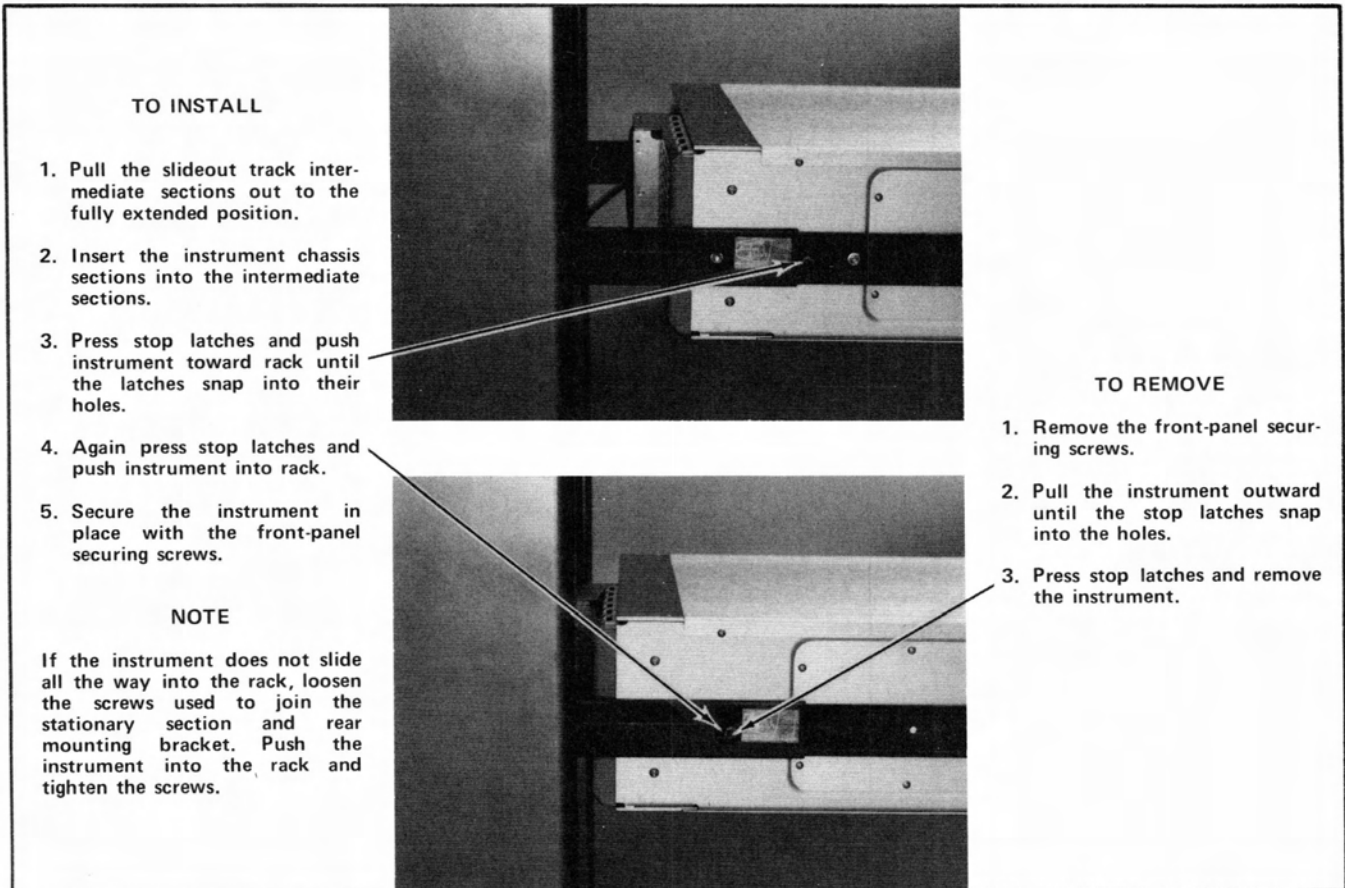

Fig. 3-4. Installing and removing the instrument.
4. Refer to Fig. 3-4 to install the instrument into the rack.
following the instructions given in Fig. 3-4. No further adjustments are required under normal conditions.